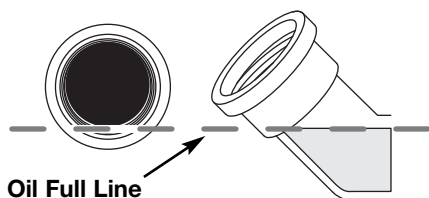
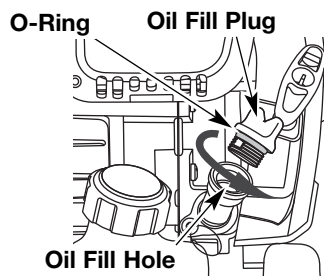

Fig. 13
Fig. 11
2. Remove the oil fill plug from the crankcase (Fig. 11).
3. Look into the oil fill hole (Fig. 11). If the oil level comes up to the first thread, then the oil is full (Fig. 13). If it does not, fill with oil until it does.